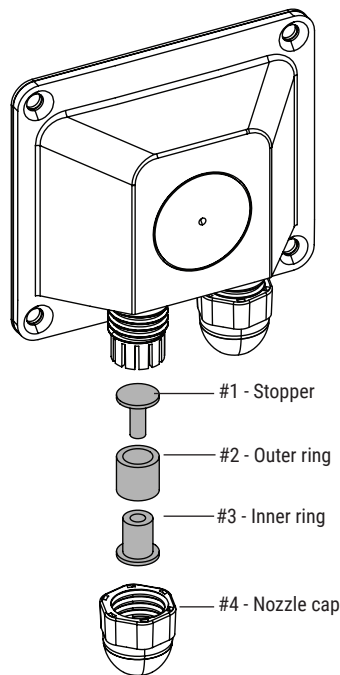

Figure 7
- For thicker wire (12/2 or CAT5/6 cabling (5-7 mm)): Use the outer part of the plug alone (#2 in Figure 7 above) to create a weatherproof ring.
- For thinner wire (14/2, 16/2, or 18/2 cabling): Use the inner part of the plug (#3 in Figure 7 above) together with the outer part (#2 in Figure 7) to create a weatherproof ring.